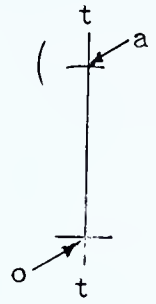

FIG. 327 — *Laying Out the Template*
21. Scribe a perpendicular line at the right side of the template paper as shown at  $t-t$  in Fig. 327.
23. Set one trammel point at  $o$  in Fig. 327 and scribe a short arc at  $a$ .
24. Use the dividers with the setting obtained in Step 2; set one divider point in intersection  $a$  on a line  $t-t$  and scribe a short arc at the left as shown in Fig. 327.